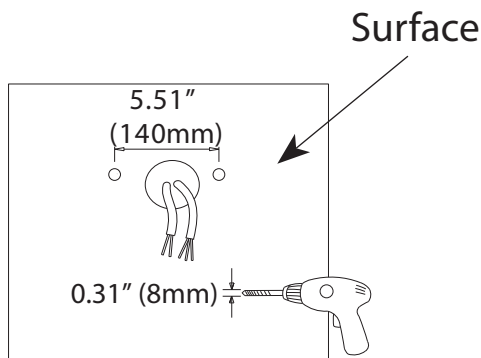

Figure 1
Step 1: Drill holes on a sturdy surface as shown in Figure 1.